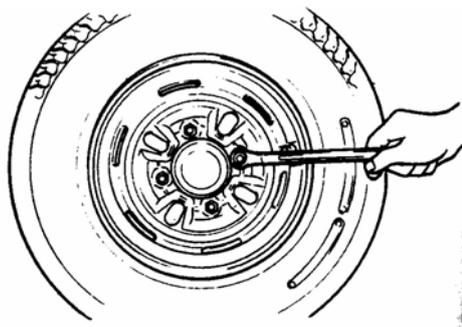

FIG.16-35
- (1) inspect if parking brake lever has been pulled up;
- (2) Loosen wheel nut, but do not remove wheel;
- (3) Jack up the vehicle and ensure to supported reliably. Remove wheel nut and take down rear wheel. There are four nuts on every wheel. (FIG.16-35)